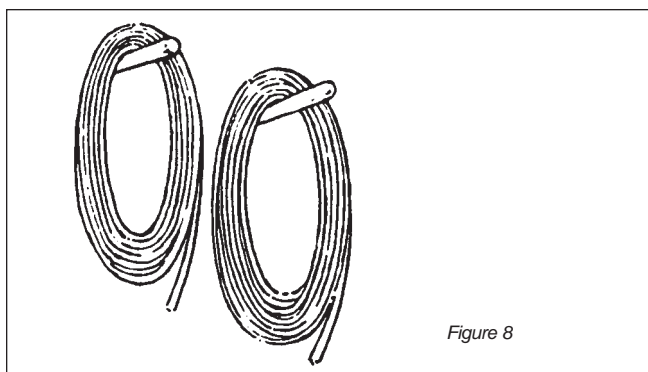

Figure 8
- Hang fibre ropes in loose coils on large-diameter wooden pegs well above the floor (Figure 8).